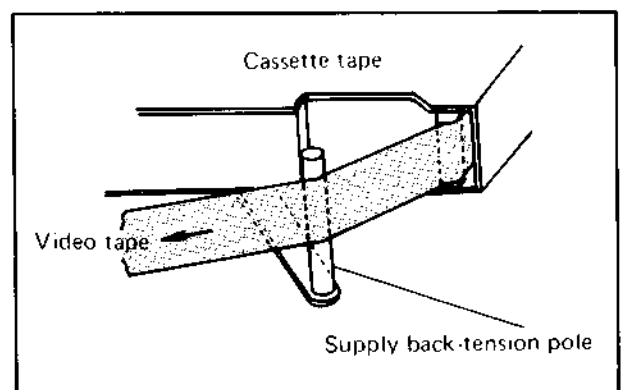

Fig. 5-30
2. While tape is traveling, check for absence of wrinkling at the outlet of the cassette tape and the supply back tension pole as shown in Fig. 5-30.